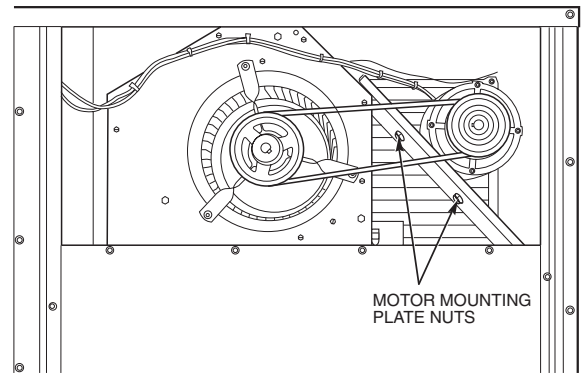

Fig. 33 — Typical Belt-Drive Motor Mounting for Sizes 090-103
2. Loosen belt by loosening fan motor mounting plate nuts (see Fig. 33 and 34).
To adjust belt tension (see Fig. 33 and 34):
deflection with 5 to 10 lb of force) and tighten mounting nuts (see Fig. 33).